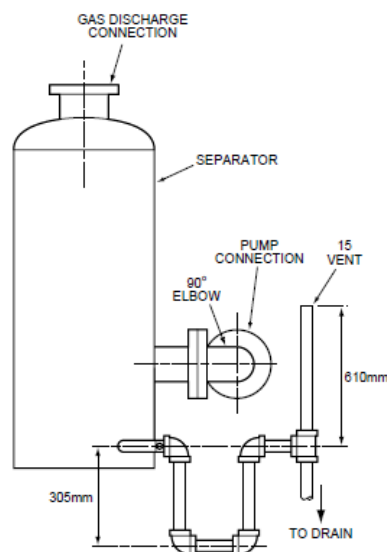

Fig. 2.2. Water Drain 'S' Bend Connected to Vacuum Pump Separator
a. Vacuum pump discharge piping should be full size from the pump to a suitable separating system (see Figure 2-2). The discharge piping between the pump and the separating system should not rise above the centerline of the pump discharge connection unless specifically indicated on the Installation or Arrangement drawing. It is recommended to fit an elbow between the separating system and the pump discharge for inspection purposes. The discharge of seal liquid from the vacuum pump separator should flow by gravity to a suitable drain. Pipe sizes must be sufficient to prevent water buildup in the separator, which may reduce gas/water separation efficiency. The air discharge from the top of the vacuum pump separator should be piped full size to a venting location or equipped with a discharge silencer.
g. If the separator water discharge is not via a sealed pipe system or immersed in a water tank or sump, it should be fitted with an 'S' bend configuration as shown in Figure 2-2.